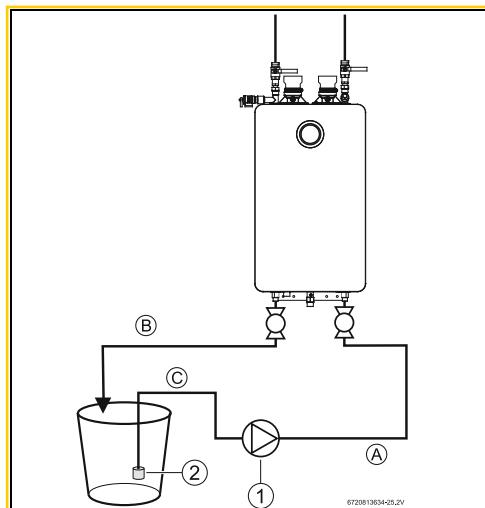

Fig. 55
- Connect a line (A) from the outlet of the circulating pump (Installer supplied) to the inlet drain connection on the water heater (see fig. 55.)
- Using another line (B), connect the outlet drain connection on the water heater. Route the other end of this line into a descaling reservoir.
- Using a 3rd line (C) from the descaling reservoir, connect to the inlet side of circulating pump. Install a filter on the end of the line in the descaling reservoir.